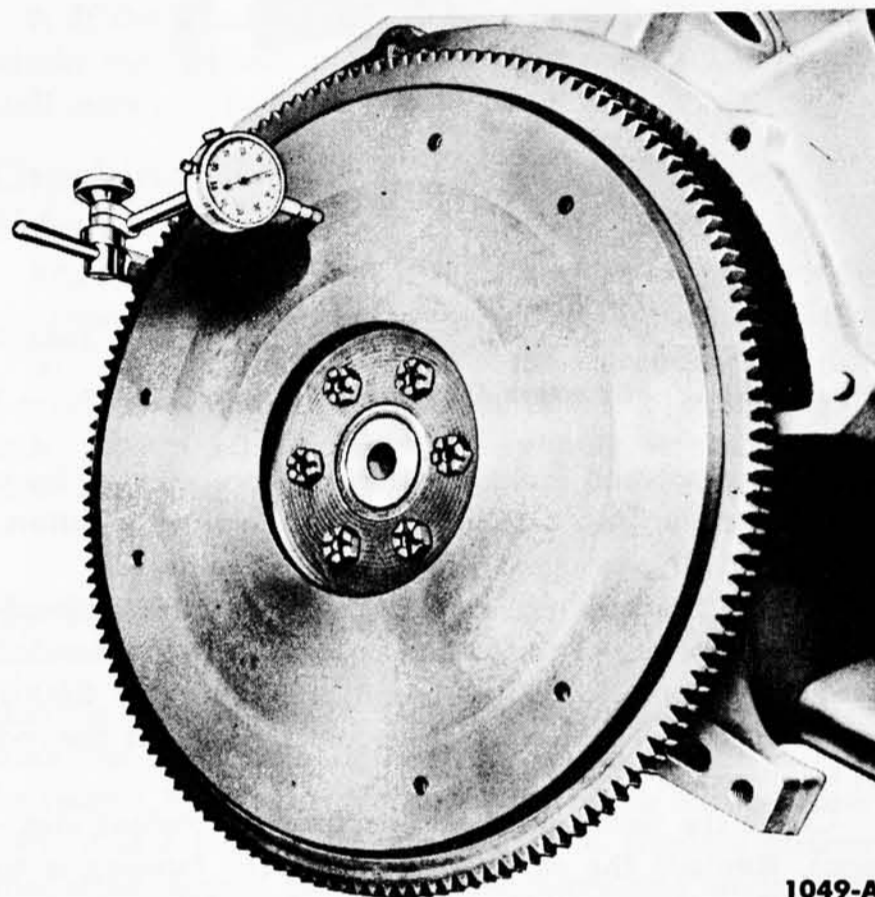

Fig. 34—Flywheel Face Runout—Typical
**FLYWHEEL FACE RUNOUT.** Install a dial indicator so that the indicator point bears against the flywheel face (Fig. 34). Turn the flywheel, making sure that it is full forward or rearward so that crankshaft end play will not be indicated as flywheel runout.